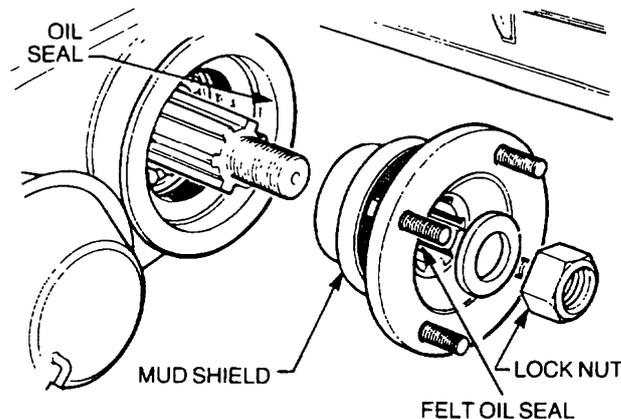

Figure 63 Output Shaft Cover Oil Seal Removal (Front)
- c. Remove the locknut and flat washer (Figure 63). Discard the locknut.